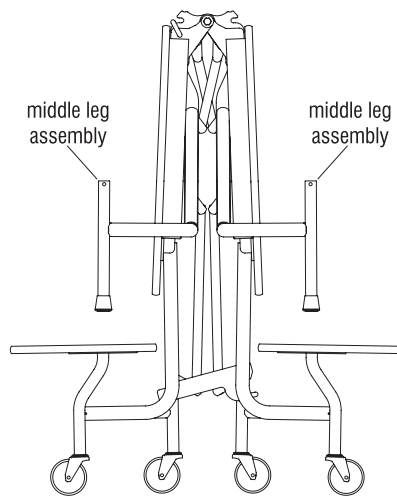

Figure 6
1. Fold table into the storage position before attachment of bench can take place (Figure 6).
2. The bench assembly is designed to span the distance between the vertical components of the two middle leg assemblies, which in the folded position are suspended in the air (Figure 6).